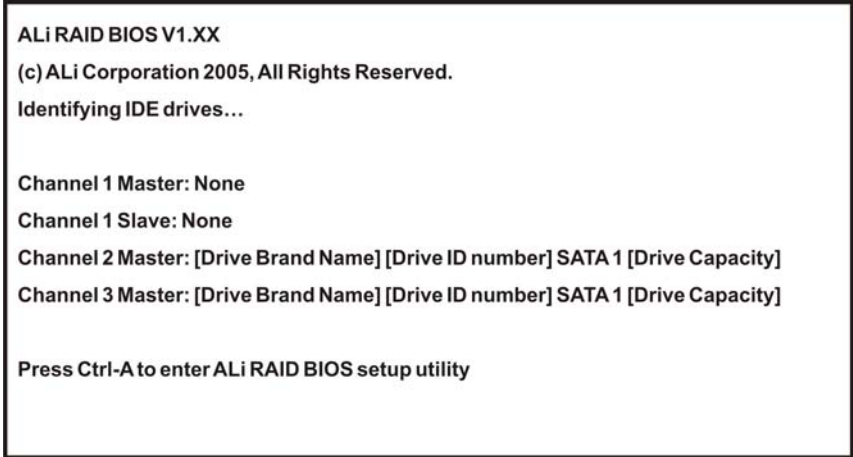

Figure E-1: Accessing ALi RAID BIOS Utility
**Step 5:** Press Ctrl-A. When the screen in Figure E-1 appears press Ctrl-A to enter the ALi RAID BIOS setup program.